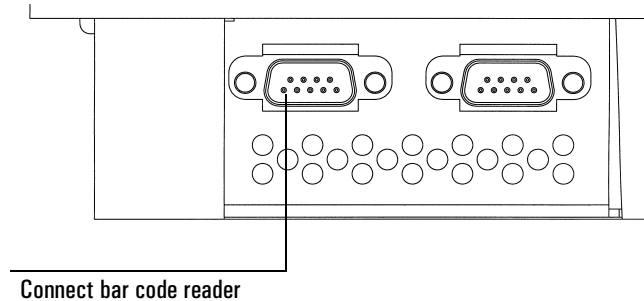

Figure 6 Connecting the bar code reader
1. Unplug the old bar code reader cable from the tray. See Figure 6.